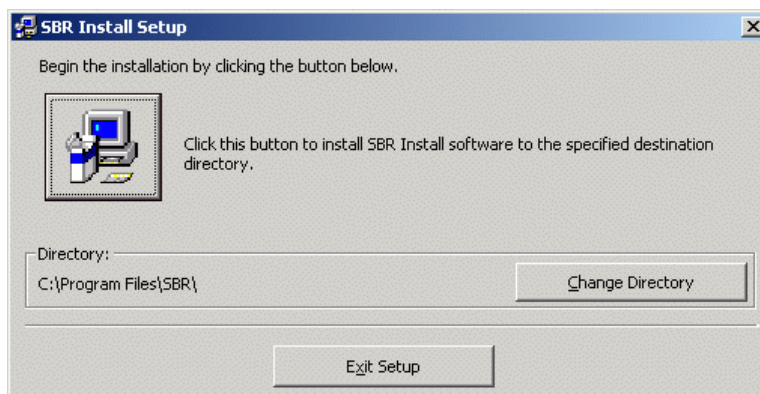
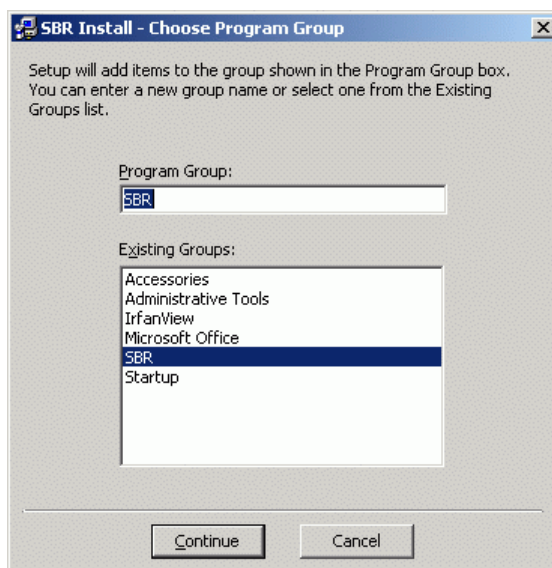

Figure 1. SBR Begin Installation Screen
Figure 2. SBR Install – Choose Program Group Screen
3. When a screen with the message “Welcome to the SBR Install installation program” displays, click on *OK*. The screen shown in Figure 1 (next page) displays.
- Click on the large button in the top half of the SBR Begin Installation screen (see Figure 1) if you want SBR installed in the destination directory shown in the **Directory:** field in the lower half of the screen. The Choose Program Group screen, shown in Figure 2, displays.